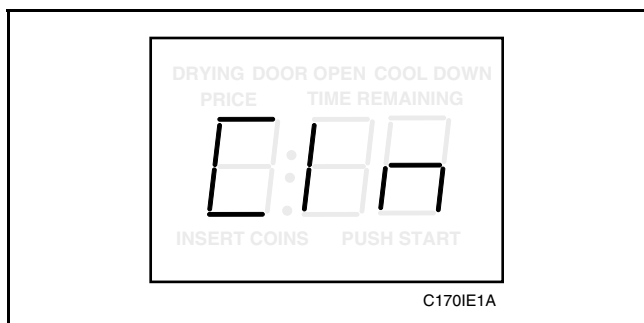

Figure 80
3. Press the LOW TEMP (+) pad **or** the NO HEAT (-) pad to scroll through the programmable options until “CIn” appears in the VFD, *Figure 80*.